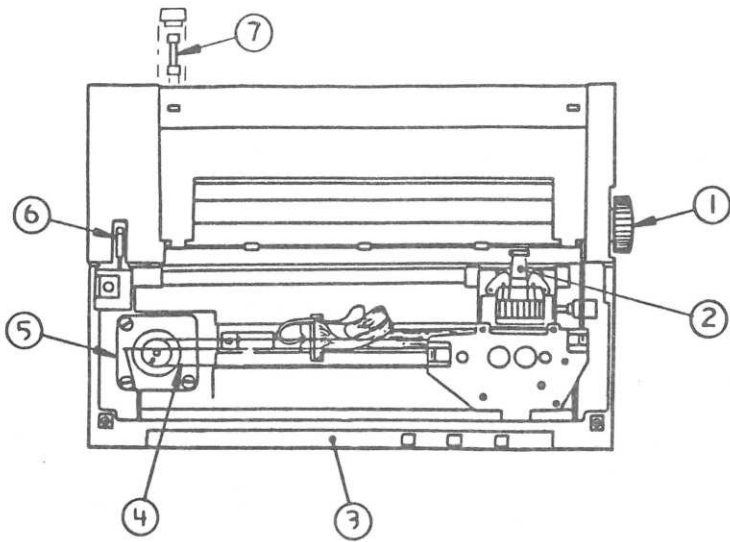

FIGURE 1
- 5.3 Mechanical Assemblies (Figure 1)
□ MECHANICAL ASSEMBLIES (Figure 1)